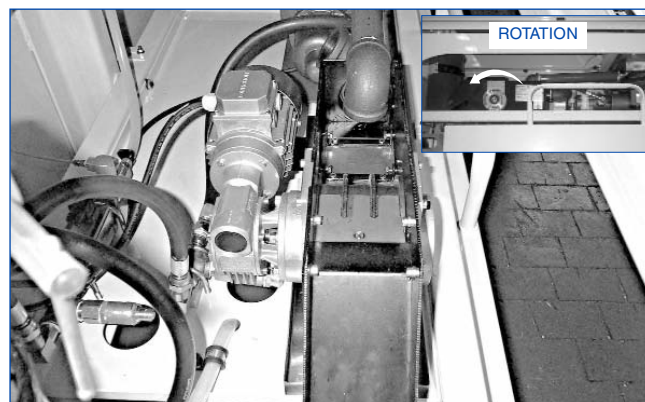

FIGURE 1-13, Magnetic Separator
- Check rotation of Magnetic Separator for proper rotation (see *Figure 1-13*). Rotation should be counterclockwise, as viewed from side of Machine.
- Turn ON Coolant Pump Disconnect, located inside Electrical Enclosure (refer to Figure 1-13).